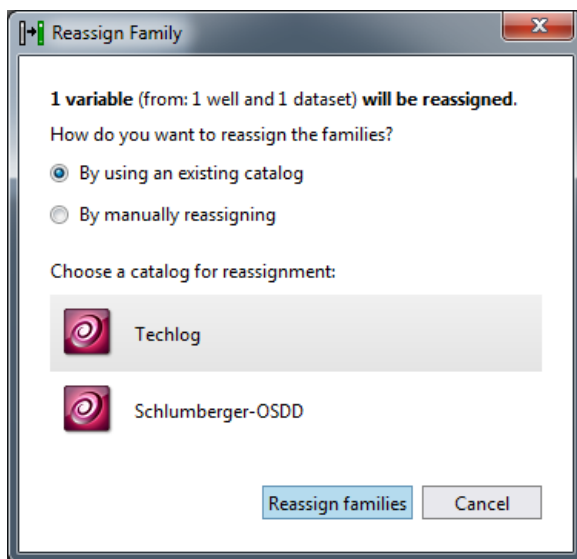

Figure 11: Reassign Family window 1.
- c. In the window that opens, keep the default selections and click the Reassign families button (Fig. 11).